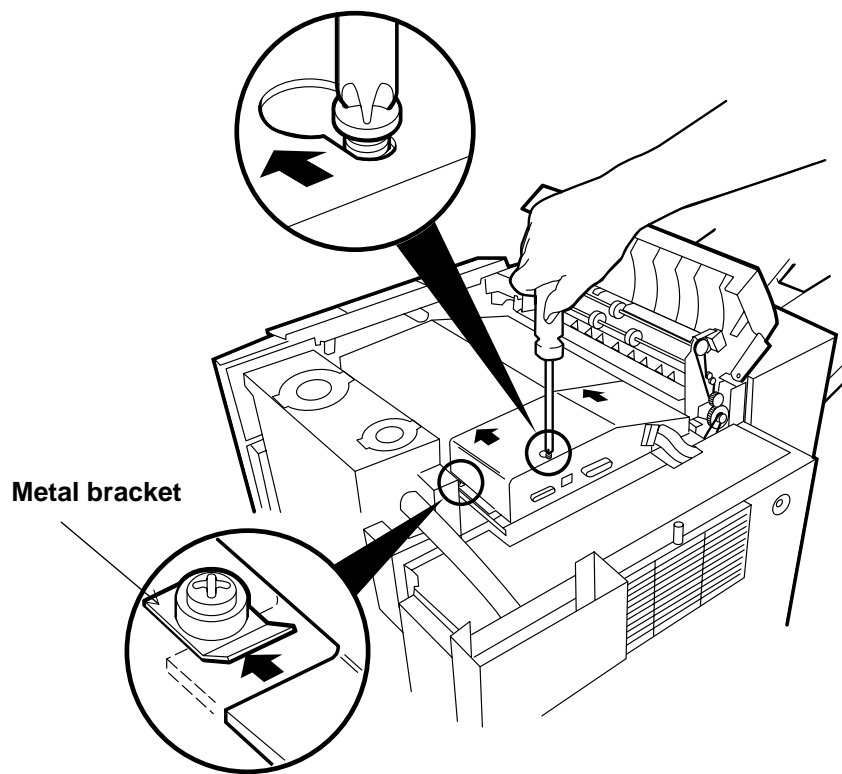

Figure 4-42 Replace Main Controller Cover
- 10. Replace the memory access cover. Make sure you slide the cover under the metal bracket, on each side of the cover, as shown in Figure 4-42.